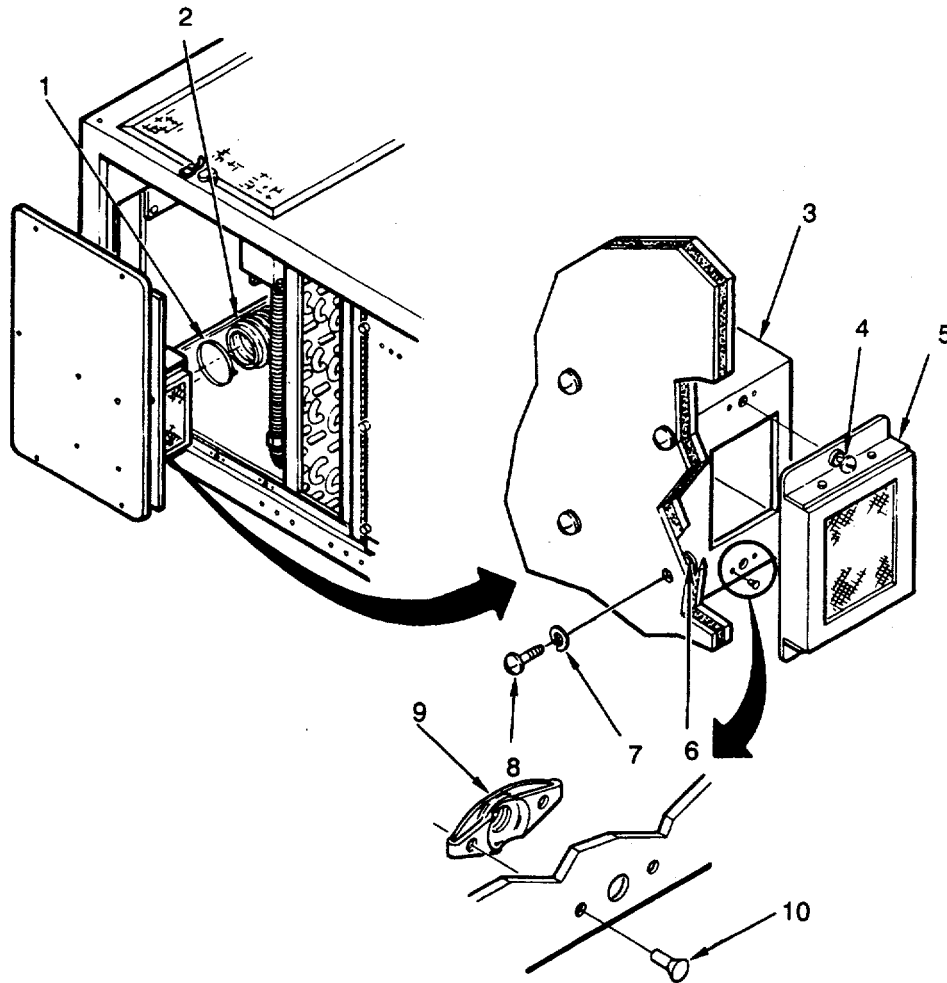

Figure 4-28. Fresh Air Inlet Filter Box (Evaporator Front Panel)
1. Check that box (3) is not bent, cracked, or punctured (see Figure 4-28).